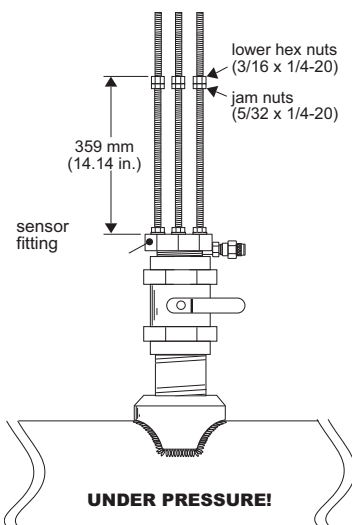

Fig. 9
- Thread one jam nut and lower hex nut onto each threaded rod so that the top surface of each nut is 359 mm (14.14 in.) from the top surface of the sensor fitting. Secure each hex nut with a jam nut. (Fig. 9)